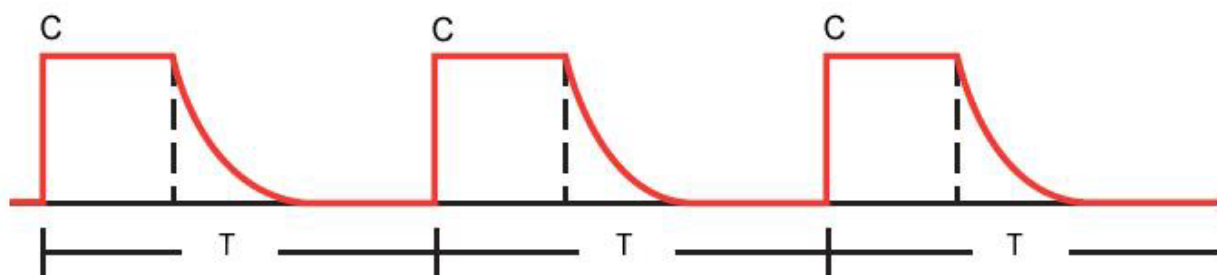

Figure 18.1 – A/C mode, there are no attempts of inhalation of the patient
Figure 18.1 illustrates the mechanism for delivering breaths in **A/C** mode when there are no attempts of inhalation of the patient. In this case, the ventilator delivers **Controlled-breaths (C)** with a period of **T**.